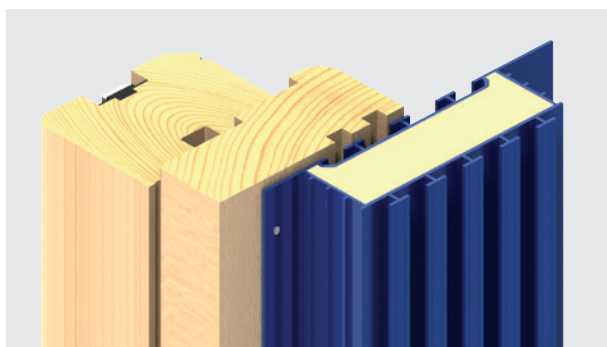

Figure 24: Kingspan Thermabate® Pre-fixed to Back of Window Frame
- Fix Kingspan Thermabate® to the window frame with appropriate fixings using the pre-drilled holes in the flange where applicable (Figure 24).